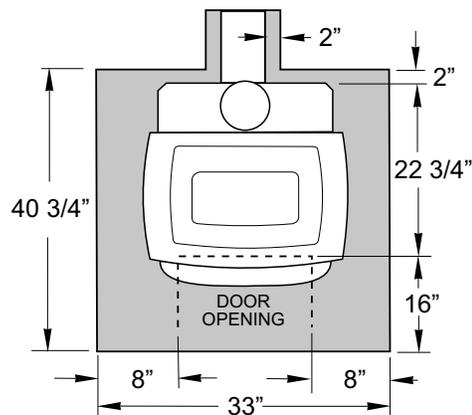

Figure 9. Floor Protection minimum dimensions, U.S.
*IN THE U.S.:* Floor protection must extend continuously forward from the door opening at least 16 in. and 8 in. from the sides of the door opening. Protection must also extend 2 in. under the chimney connector. This will result in a minimum floor protector 33" wide x 40 3/4" deep. See fig 9.